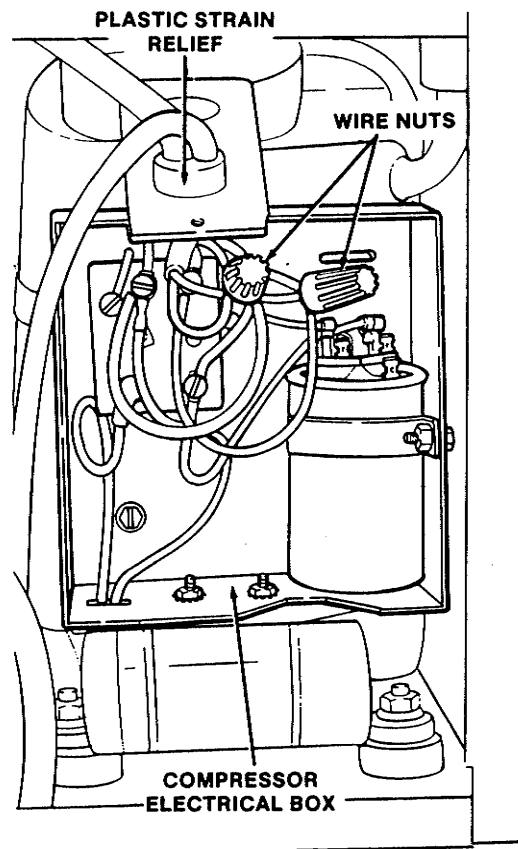

Figure 59. Compressor Electrical Box
2. Disconnect the two wire nuts from inside the compressor electrical box and identify (mark) each wire for proper connection later (Fig. 59).